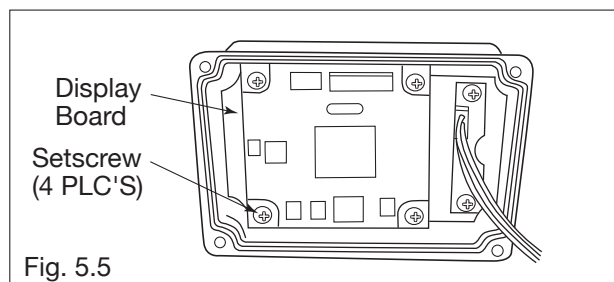

Fig. 5.5
- ③ Remove the four set screws ( $2.6 \times 8$ ) that secure the display board, and then remove the display board. (Fig.5.5)